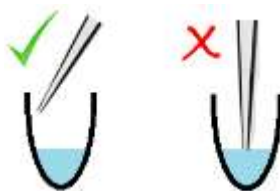

Figure 1: Schematic description of the pipetting procedure
**Note:** When pipetting into the PCR wells it is important not to allow the pipette tip to contact the dried mix (dyed blue) in the bottom of the well. It is advisable to pipette to the side of the well, see figure 1.